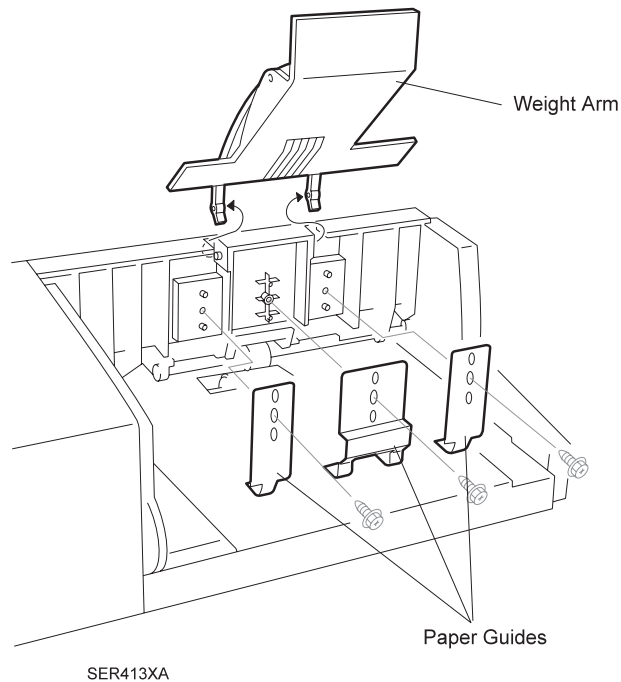

Figure 4-12. Weight Arm
4. Use a pencil to mark the position of the three screws that secure the two Paper Guide 1's and the Paper Guide (Figure 4-12).
5. Remove the three screws that secure the two Paper Guide 1's and the Paper Guide to the Upper Cover (Figure 4-12).
9. Align the two Paper Guide 1's and the Paper Guide with the positioning tabs on the Upper Cover (Figure 4-12).